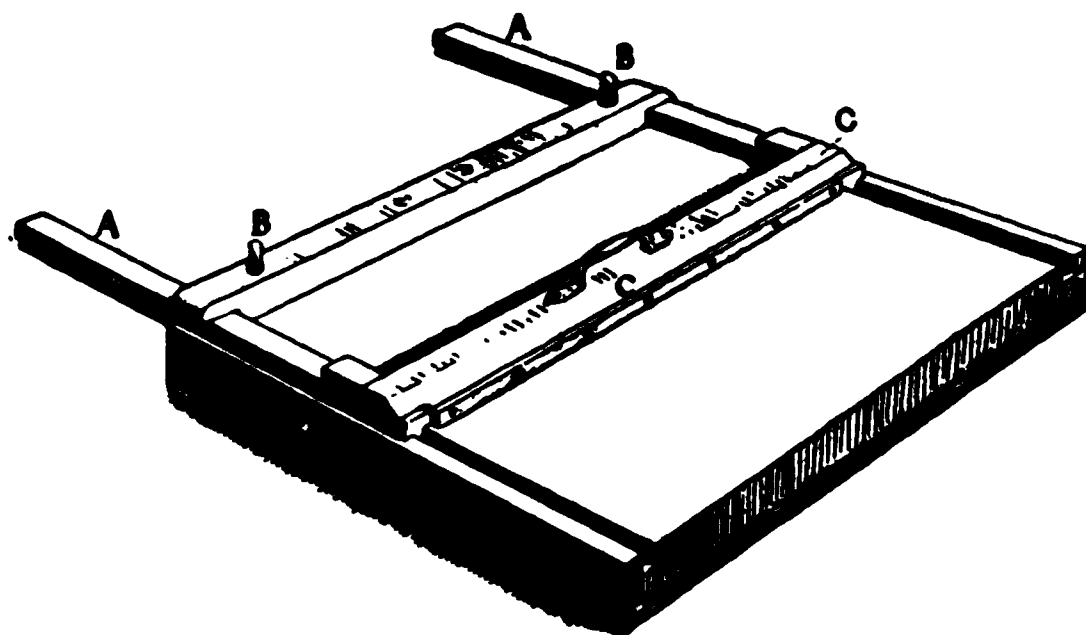

FIG. 24.
The board is slid in the same way, and anything projecting beyond it cut off. When the under straw-board has become inconveniently scored in the first position, by shifting the lower nail (1) a fresh surface will receive the cuts. Fig. 24 is a representation of a simple machine that I use in my workshop for trimming. The slides A A are adjustable to any width required, and are fixed by the screws B B.